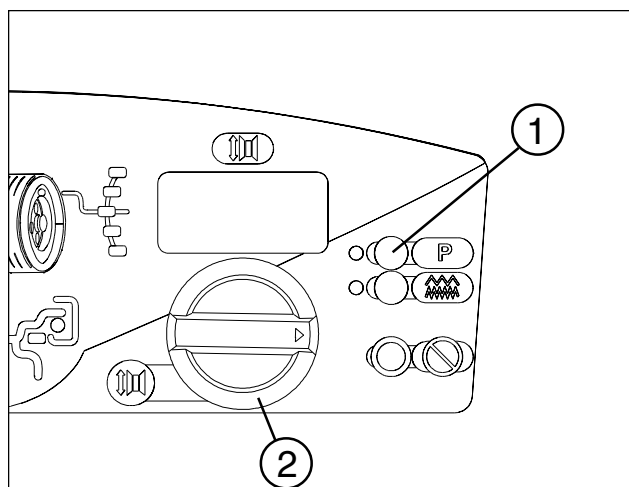

Figure 32
**1. Activate Calibration.** Press and hold the **P** button (#1 Fig 32) while turning the *Diameter/Function Knob* (#2 Fig 32) until the display reads "P" "14".